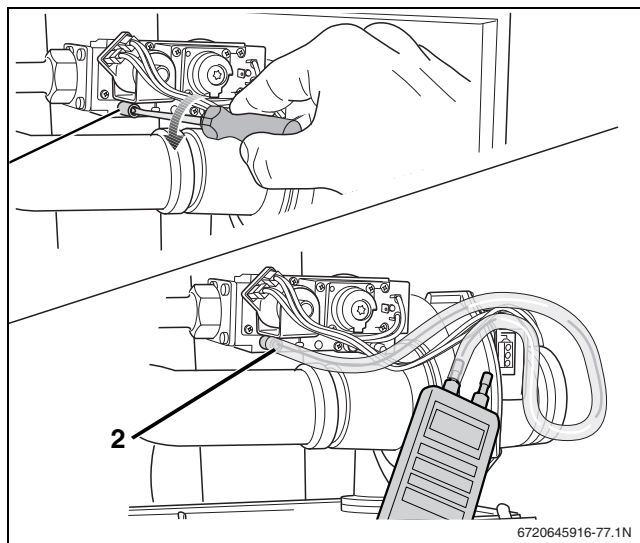

Fig. 79 Checking the gas fitting for internal tightness
- Open the screw plug on the testing nipple for the gas connection by 2 turns (→ fig. 79, [1]).
- Connect the pressure gauge tube to the testing nipple (→ fig. 79, [2]). The pressure drop allowed after 1 minute is max. 3.8" W.C. (10 mbar).